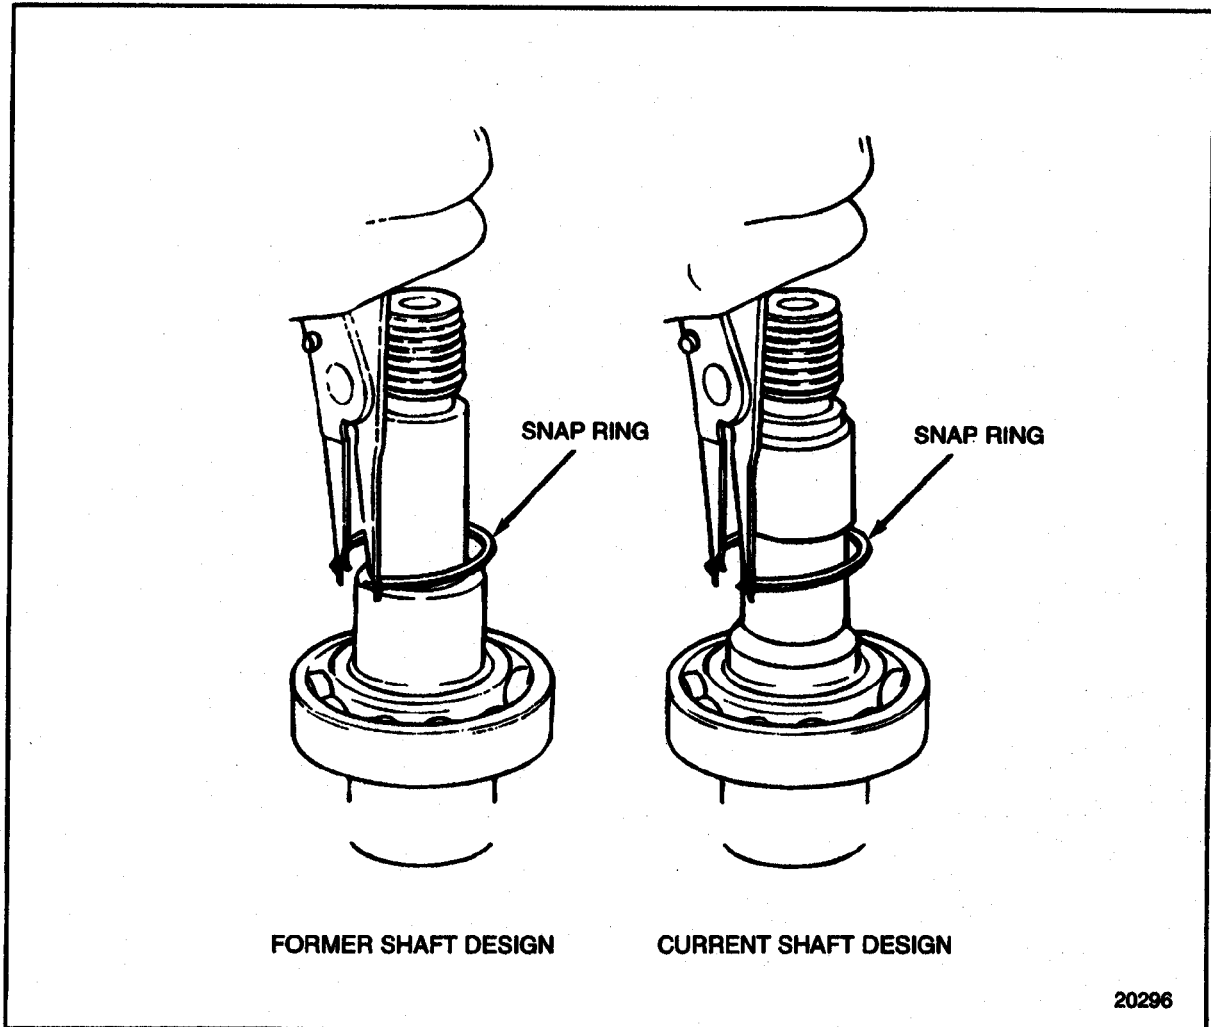

Figure 1-410 Snap Ring Removal
13. Remove the snap ring from the accessory drive shaft. See Figure 1-410.